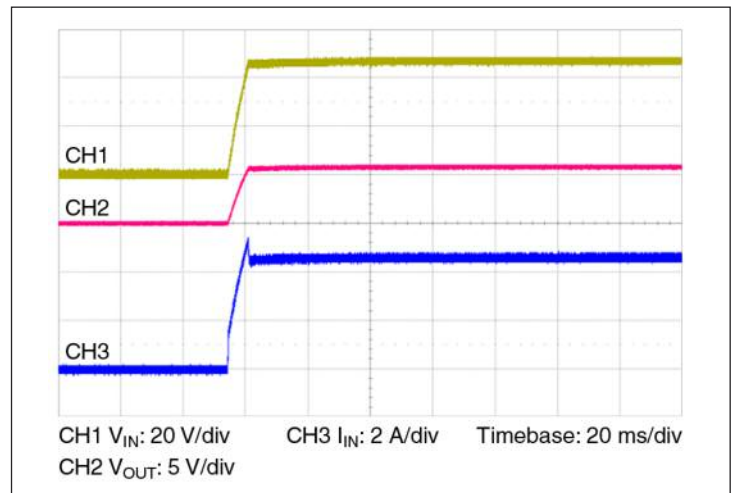

Figure 10 — Start up from application of V_{IN}; VC pre-applied C_{OUT} = 4000 μ F
- **Normal operation (VC applied prior to V_{IN}):** In this case the controller is active prior to ramping the input. When the input voltage is applied, the VTM module output voltage will track the input (See Figure 10). The inrush current is determined by the input voltage rate of rise and output capacitance. If the VC voltage is removed prior to the input reaching 26 V, the VTM may shut down.